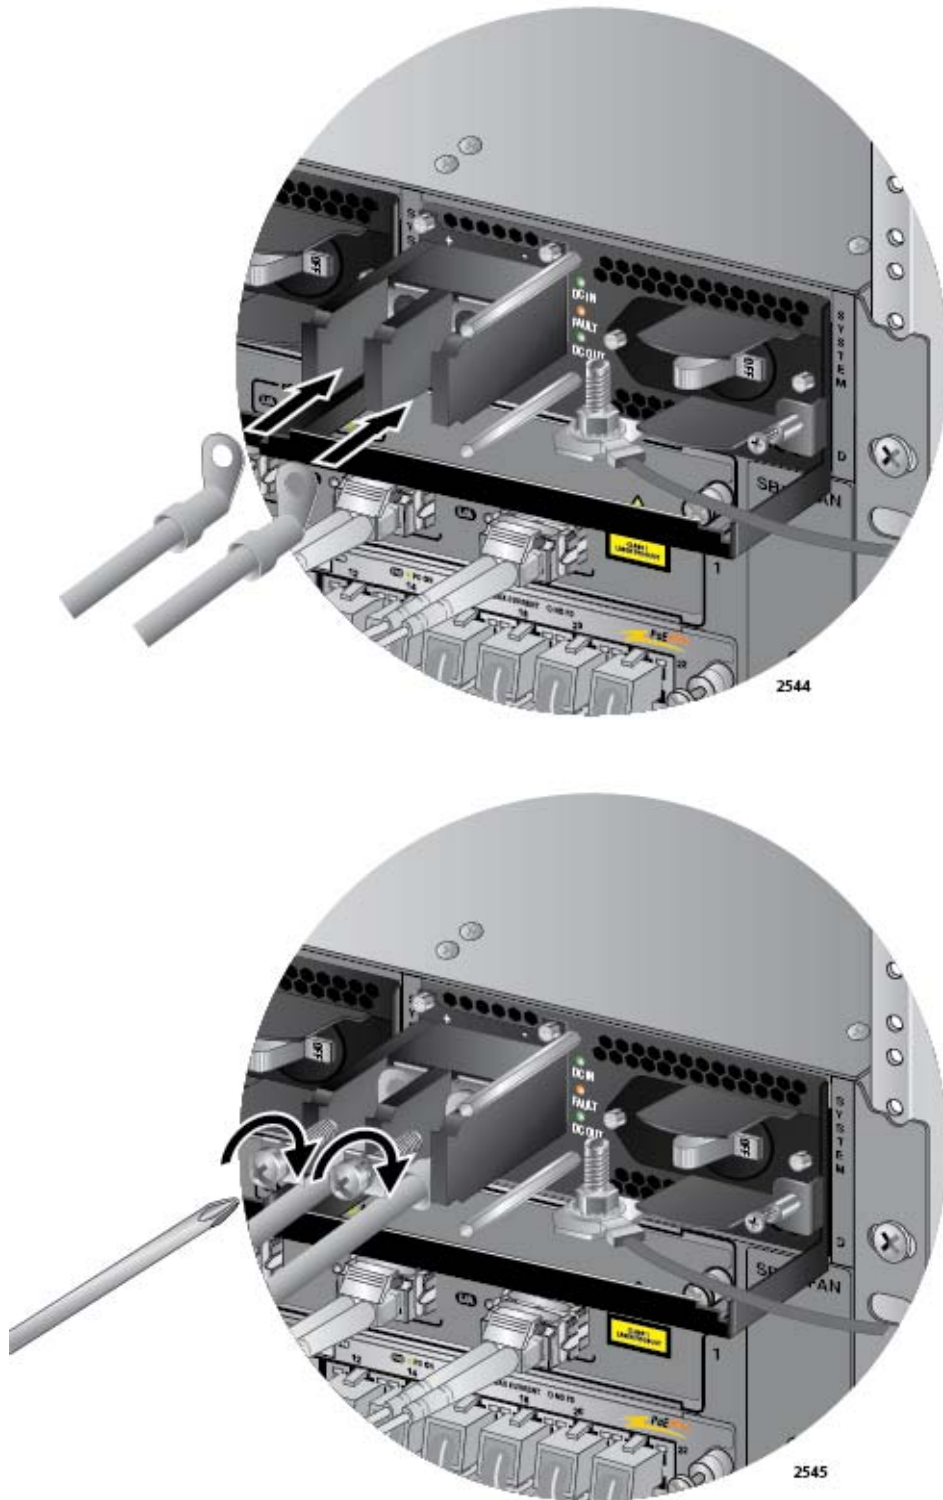

Figure 136. Connecting the Power Wires
5. Position the power wires over the terminals and secure them to the terminal block, with the terminal screws removed in step 4 and a #3 Phillips-head screwdriver. The positive terminal is on the left and the negative terminal is on the right. Refer to Figure 136 on page 178.